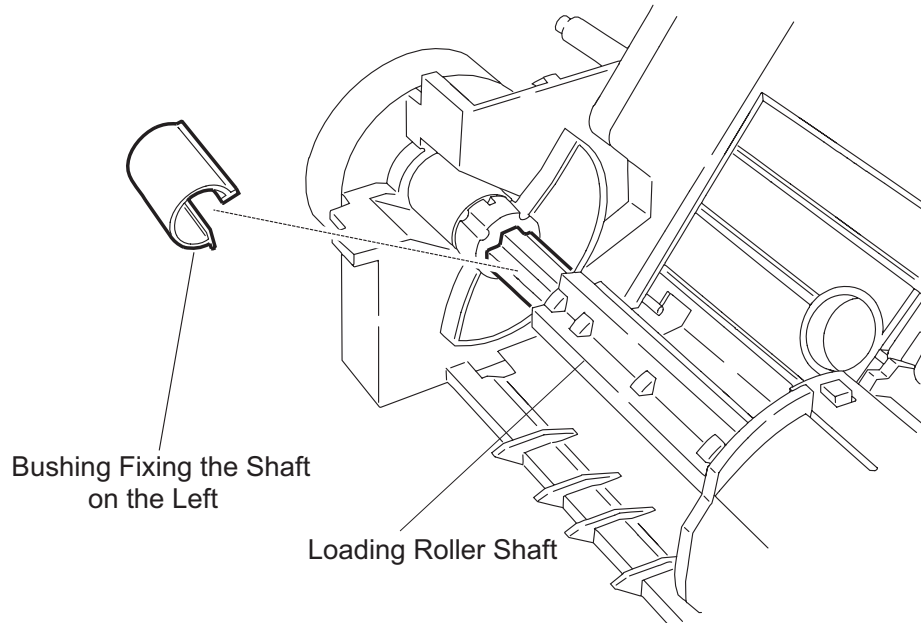

Figure 3-23. Left Bushing Removal
2. Remove the left shaft bushing, located at the left end of the loading (LD) roller shaft. (See Figure 3-23.)